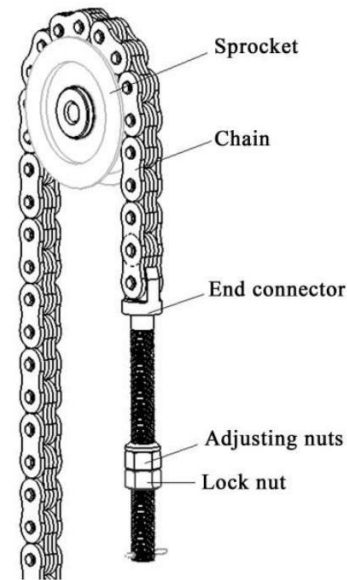

Fig. 6-6
- (1) Put a pallet on the fork and park the car on flat ground.
- (2) Make the forks and pallets fall to the ground.
- (3) Remove the upper end joint of the chain and remove the chain from the sprocket, as shown in Fig. 6-6.
- (4) Lift the inner mast.
- (5) After confirming that the fork arm carrier has been disengaged from the inner door frame, remove the fork arm carrier.